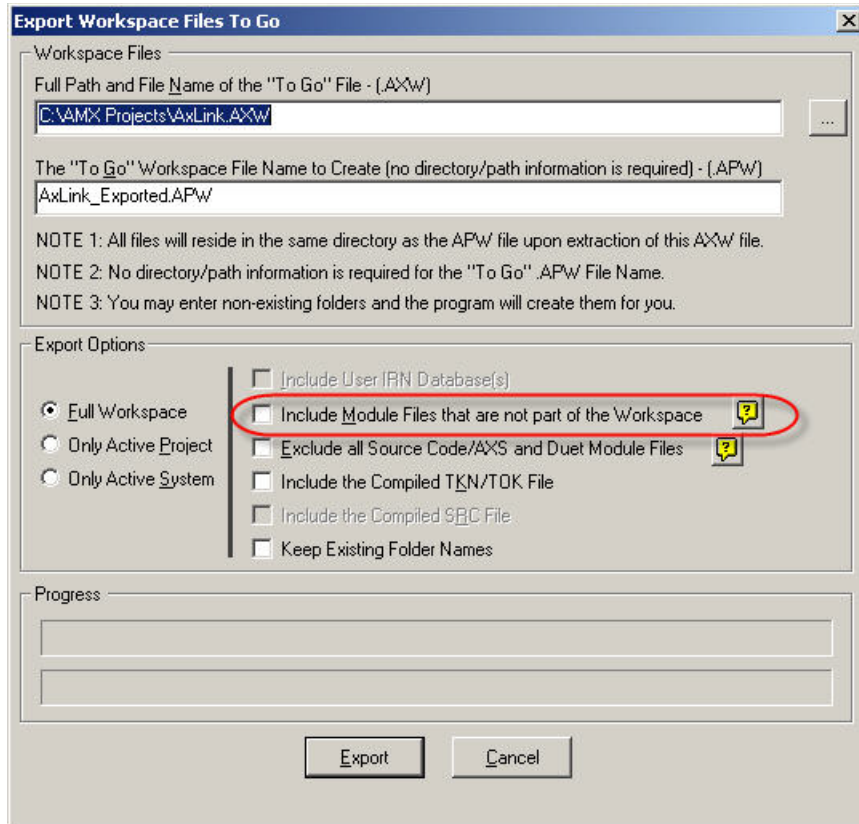

FIG. 277 Export Workspace Files To Go dialog (NetLinX Studio)
5. In NetLinx Studio, select **Project > Export Workspace To Go** to access the *Export Workspace Files To Go* dialog (FIG. 277):